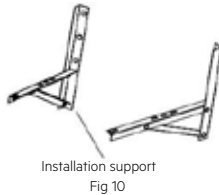

Fig 10
- If installation brackets for installing the outdoor unit are needed, the user could buy them from our company or agents (Fig.10).